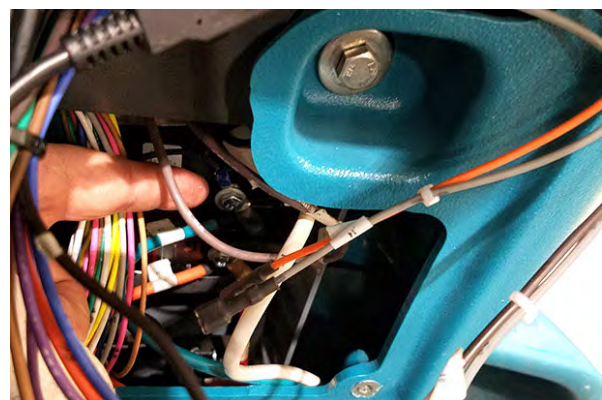

FIG. 34
19. Remove the hex nut from propel controller B-terminal. (Fig. 34)
20. Connect the blue spotlight harness (3) RT1 lead to the propel controller B- terminal and reinstall the previously removed hex nut onto the propel controller B- terminal. (Fig. 34)